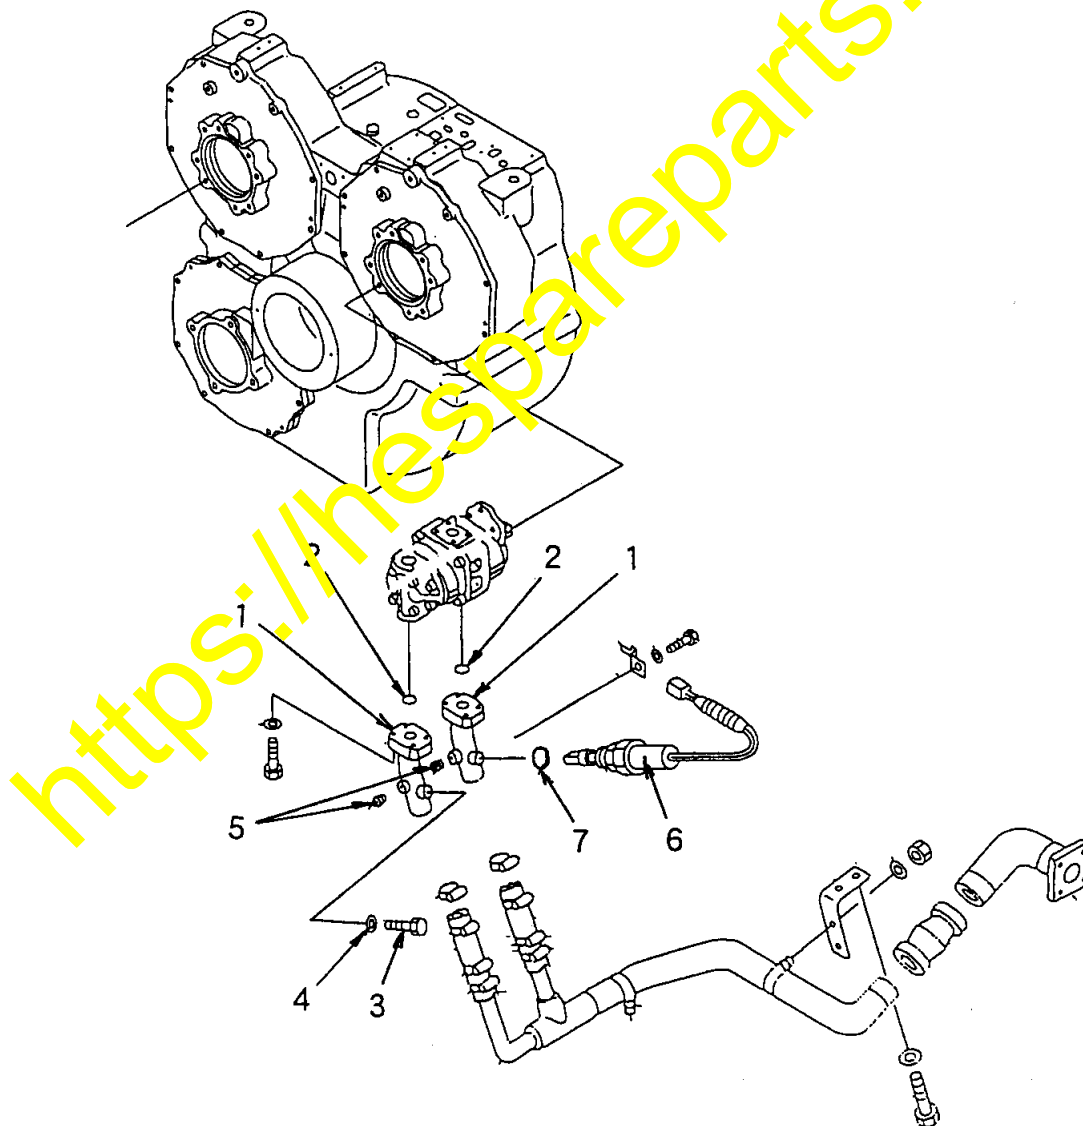
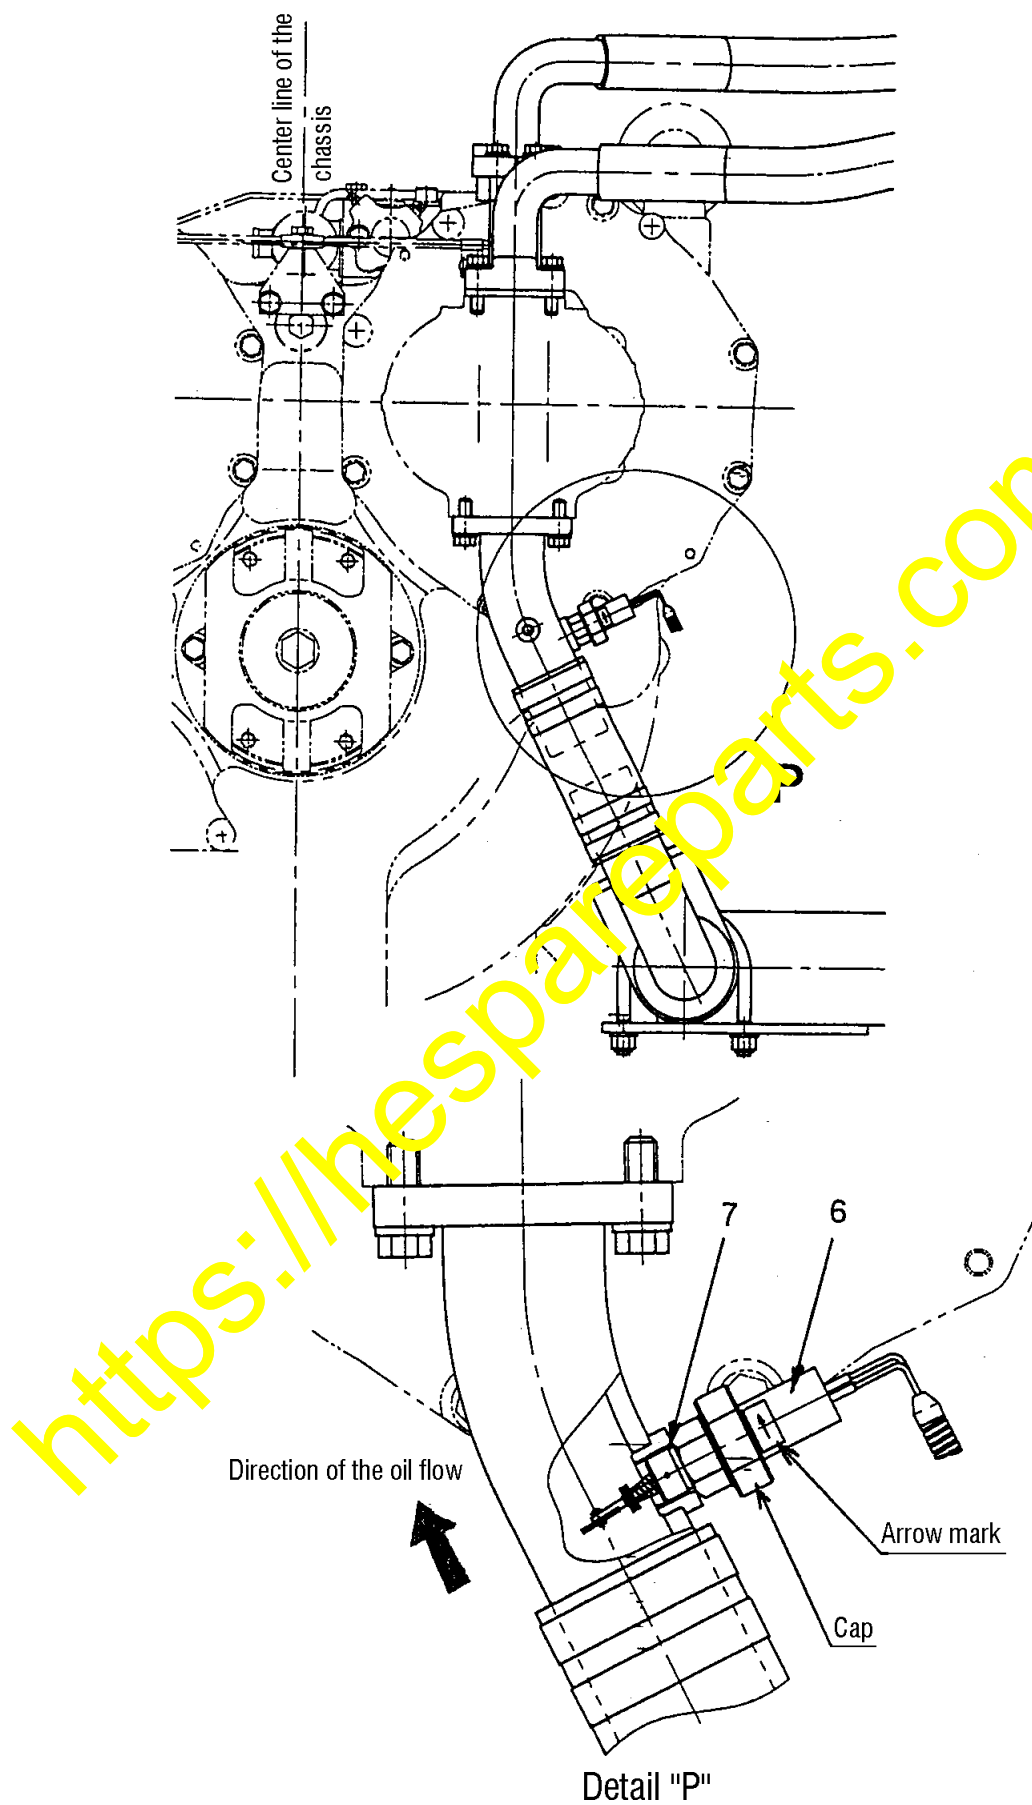

Fig. 2 Reinstalling the parts
Fig. 3 Installing the flow switch
(1) Connecting the tubes (Refer to Fig. 2.)
1) Connect the tubes (1) to the pump. At this time, replace the O-rings (2) with new parts.
(2) Installing the auto emergency steering flow switch (Refer to Fig. 2 and Fig. 3.)
(3) Installing the plugs and other parts (Refer to Fig. 2.)